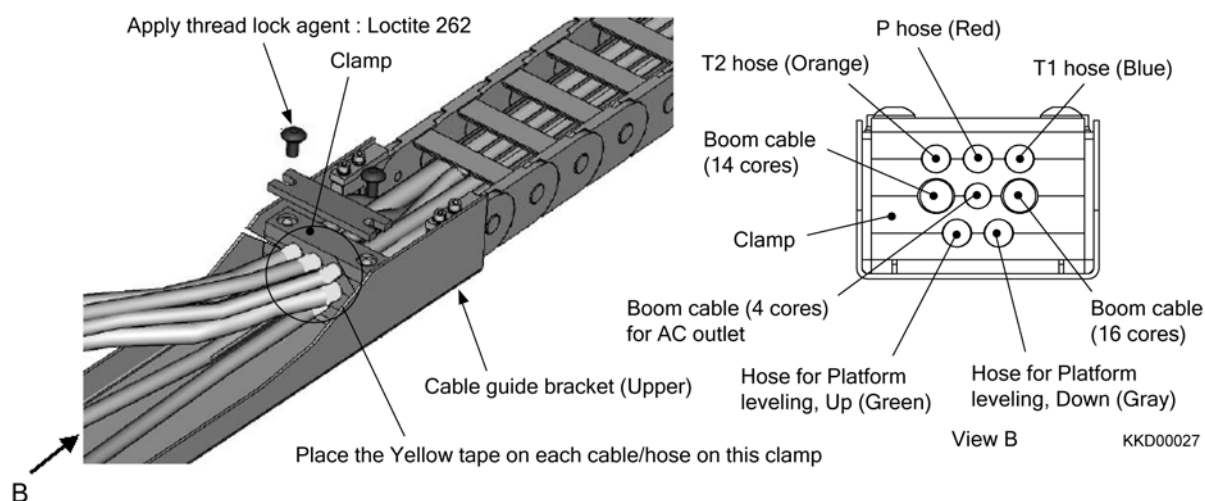

Fig. 2-54
3) Fix the boom cables and hoses to the cable guide bracket (Upper) by clamp. (Fig. 2-54)